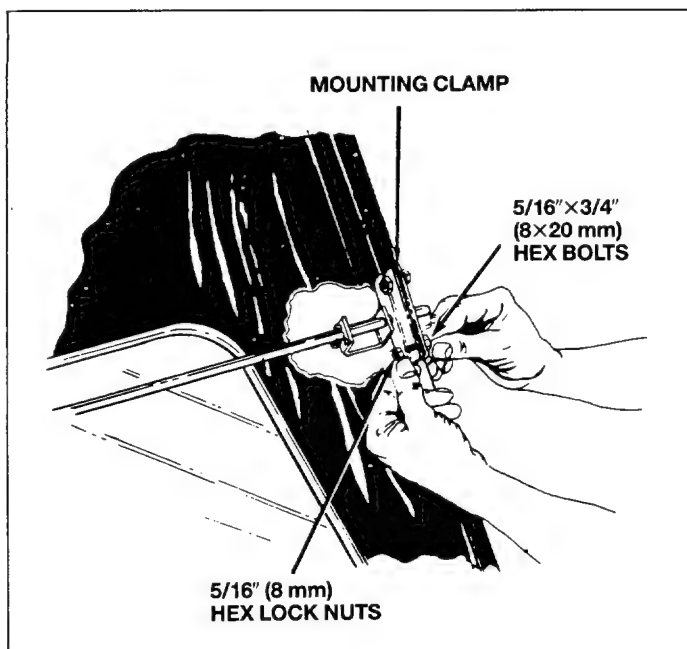

Fig. 25
15. Assemble the two remaining hopper mounting clamps to the outside of bag frame with 5/16"×3/4" (8×20 mm) hex bolts and 5/16" (8 mm) hex lock nuts. See figure 25. *Tighten securely.*